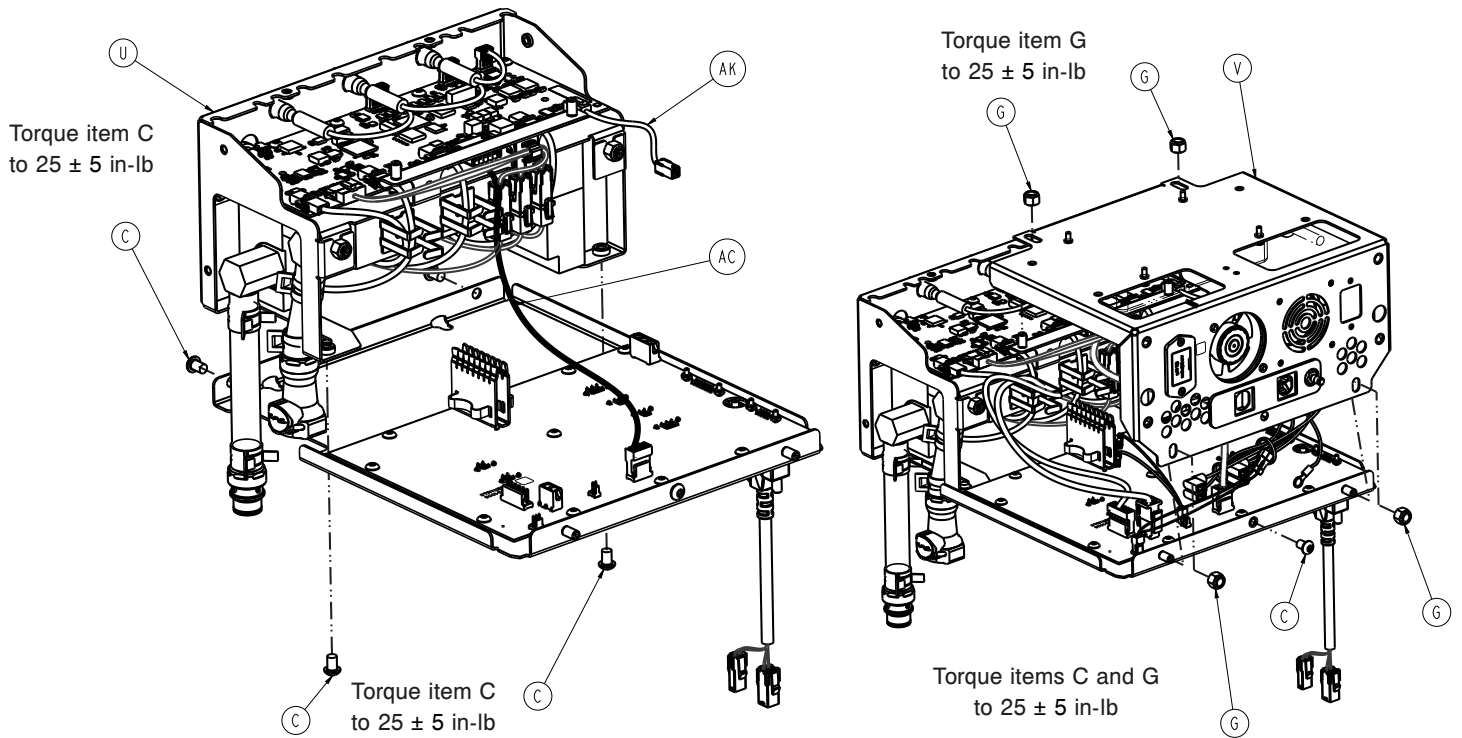

Figure 29 – Power supply
10. Using a 7/16" socket, remove the four locknuts (G) that secure the power supply mount to the control assembly (Figure 29). Save the locknuts.
11. Using a T27 Torx driver, remove the screw (C) that secures the power supply mount to the control assembly (Figure 29). Save the screw.